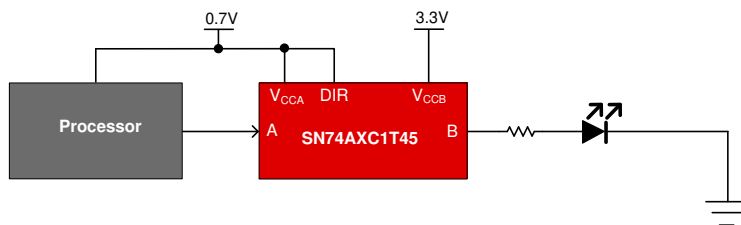

Figure 2-1. GPIO Translation Using SN74AXC1T45 for LED Driving
- LED driving as shown in Figure 2-1